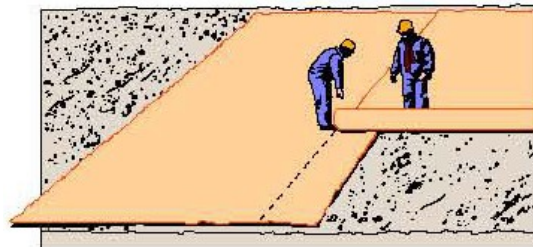

Figure 6 Geotextile placement
- Ensure that minimum overlap between rolls is maintained. See Figure 6.